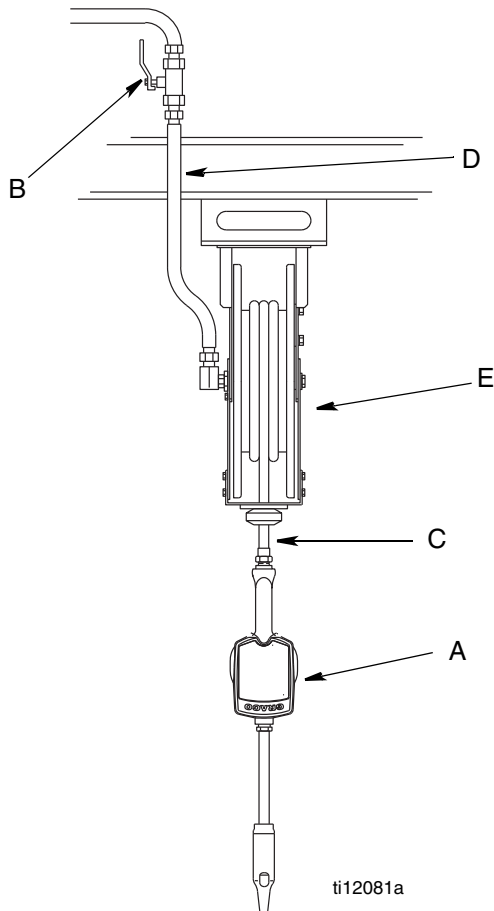

FIG. 1
FIG. 1 shows a typical hose reel installation. Dispense valves can also be installed on a console as shown in Fig. 2.
The typical installation shown in Fig. 1 is only a guide. It is not a complete system design. Contact your Graco distributor for assistance in designing a system to suit your needs.
3. Close the shut-off valve (B, FIG. 1, page 5).